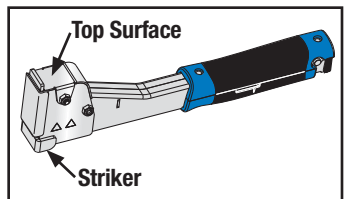

Figure 1
- Do not use the top surface of the tool as a hammer, this may unexpectedly eject a staple, or damage the stapler. See figure 1.